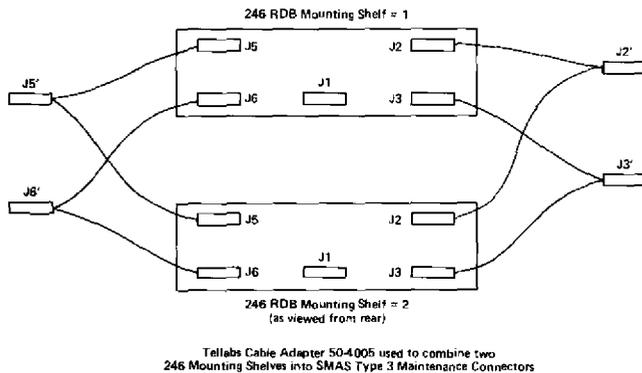

figure 7. Interfacing Two 246 Mounting Shelves into SMAS
to tip and ring leads (of all System module positions) that connect the receive-channel outputs (leg in [LI]) to the fixed-loss resistive network (bridge in [BI]) are provided via connectors J6 and J5, respectively. Since SMAS 5A is designed to accommodate twenty-four 4wire circuits, a more efficient utilization of SMAS can be achieved by integrating the bridge networks of two 246 RDB Systems into a single Type 3 Maintenance Connector System. Tellabs' 50-4005 Cable Adapter Assembly permits the combining of connectors J2, J3, J5, and J6 of two 246 RDB Systems, as shown in figure 7.
3.04 If two or more 246 Assemblies are to be installed and configured for SMAS Type 3 or remote manual testing, a more economical method of cabling uses the optional Tellabs 50-4005 Cable Adapter shown in figure 7. Connectors *J2*, *J3*, *J5*, and *J6* on the rear of each 246 Assembly use only 12 pairs of each 25-pair connector. By installing the *J2'* Y-adaptor (for example) between connector *J2* on the first shelf and connector *J2* on the second shelf, it is possible to serve both shelves with a single 25-pair cable. The same is true for connectors *J3*, *J5*, and *J6*, thus reducing the number of cables required for facility connections and SMAS access. Of course, other cable adapters are available; contact Tellabs' Applications Engineering Department with your requirements.